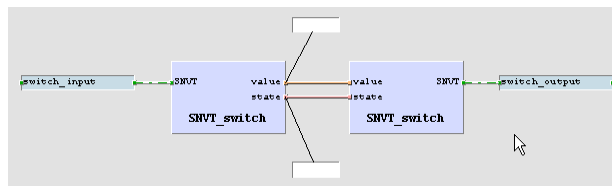

Figure 65: Online Test fields
13. Place the fields above and below the drawing as shown in Figure 65, then press the **Save** button to save your changes.